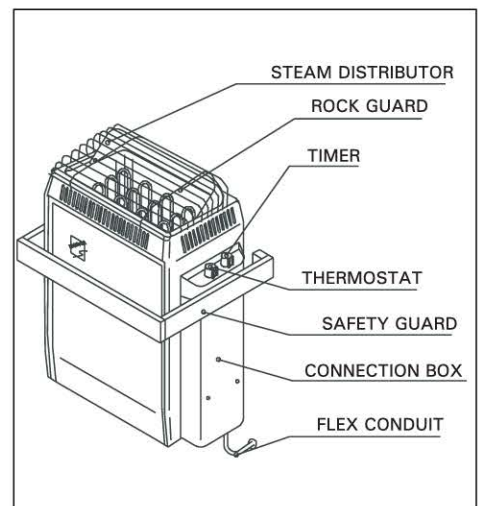

Figure 9. Connections and parts of the heater
4. The steam distributor must always be fastened on the wall side of the heater. To turn the distributor, loosen the fastening screws and then turn it. See figure 9.